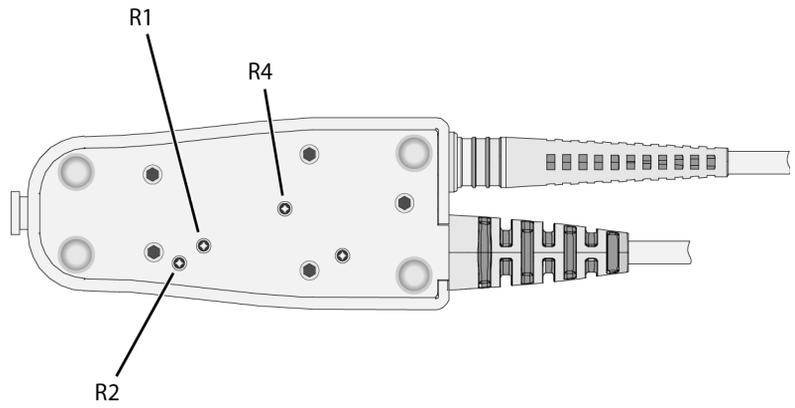

Figure 32 Location of Calibration Adjustments
During this calibration, you may be prompted to make one or more adjustments. These adjustments, located on the underside of the probe amplifier, are shown in Figure 32 on page 70.
- 9 If you are prompted to make an adjustment, refer to Figure 32. The adjustments are located on the underside of the probe amplifier.